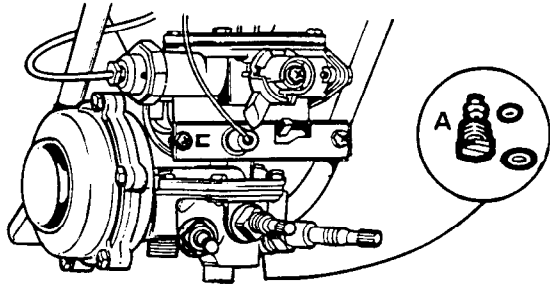

Fig.23
a) Unscrew the slow ignition device (A) anti-clockwise and remove (see fig. 23).